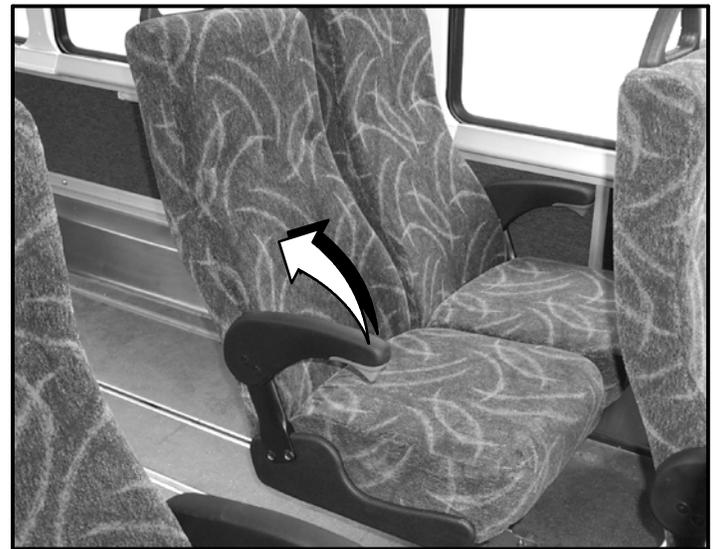

FIGURE 95
- On the sliding seat(s) located directly in front of the fixed seat, depress the button on the end of the armrest, to raise and lock the seat back in the upright position. Lift the armrest to the upright position (Figure 95),